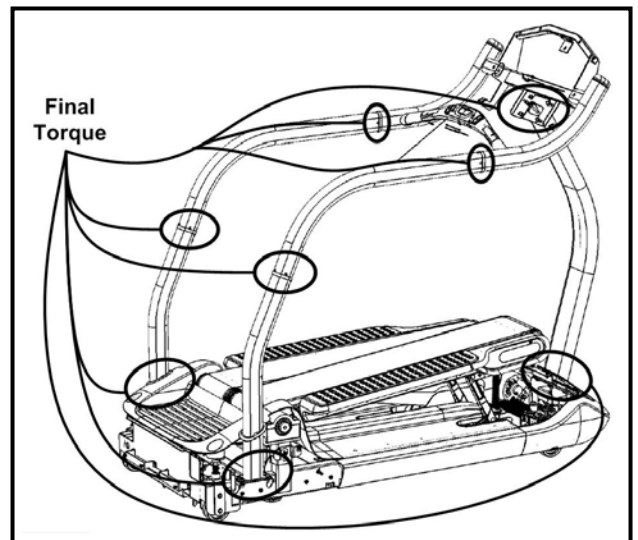

Fig. 14
14. Using a torque wrench, go back to steps: 6, 8, 9, 12, & 13 to thread all bolts mentioned in each step to their corresponding final torque (Fig. 14) specifications which are listed in the notes section of the step instructions.